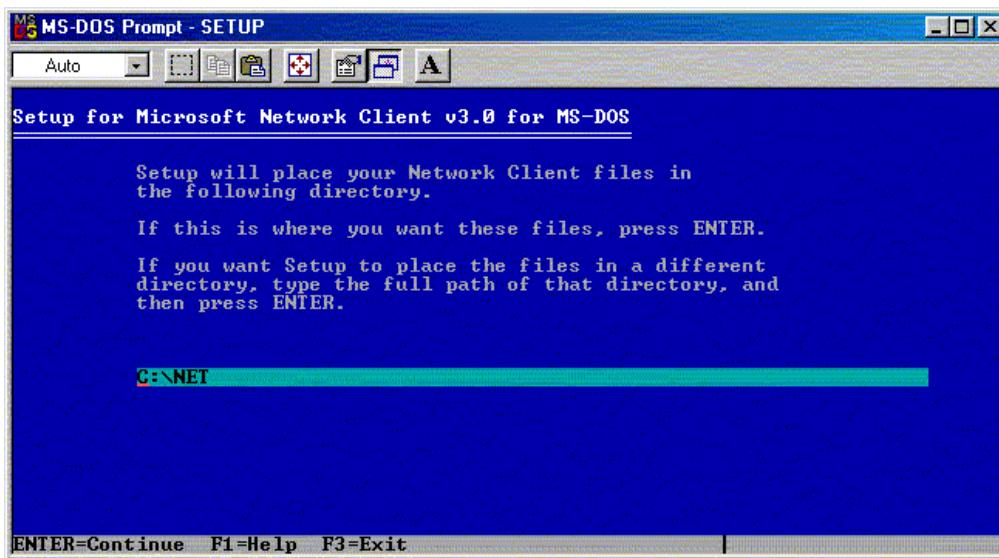

Figure A-7: Default installation directory for network files
4. Press the **Enter** key to continue. A screen that indicates the default installation directory for network files is displayed, as shown in Figure A-7. The network files default installation directory is **\NET** on the local hard drive.